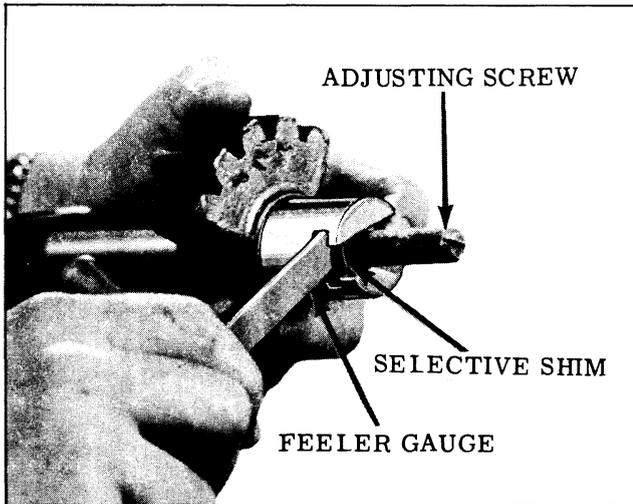

Fig. 5-41 Checking End Clearance
1. Check the end play of a new adjusting screw in the slot of the pitman shaft. The screw should rotate freely but not have more than .002" end clearance. Clearance may be checked as shown in Fig. 5-41. If the end play exceeds .002", select the proper shim to give the desired end play. (Shim thicknesses are .063", .065", .067", and .069".)